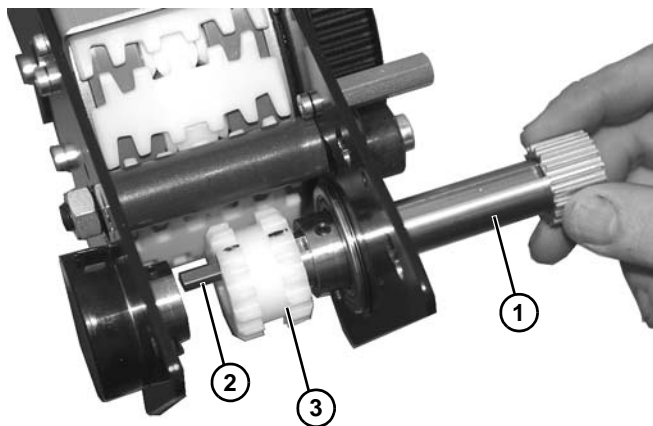

Figure 170
16. Remove drive shaft (**Figure 170, item 1**), making certain not to lose key (**Figure 170, item 2**) when removing gear (**Figure 170, item 3**).